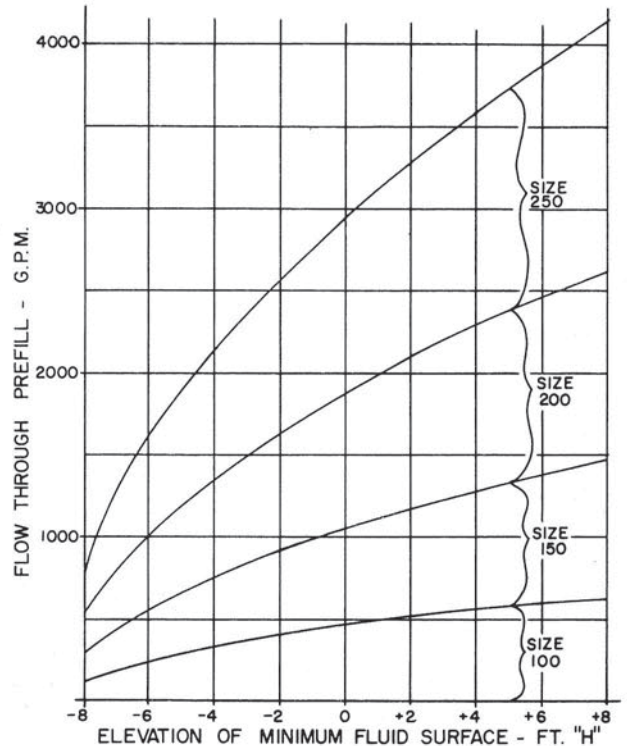

FIG. 21. Flow vs Head, all Prefill Sizes.
2. Knowing maximum expected flow through prefill and "H," determine approximate valve size from figure 21. As an example, 2000 gpm and an "H" of -2.0 feet requires a size 250 valve at the recommended velocity for this head "H."